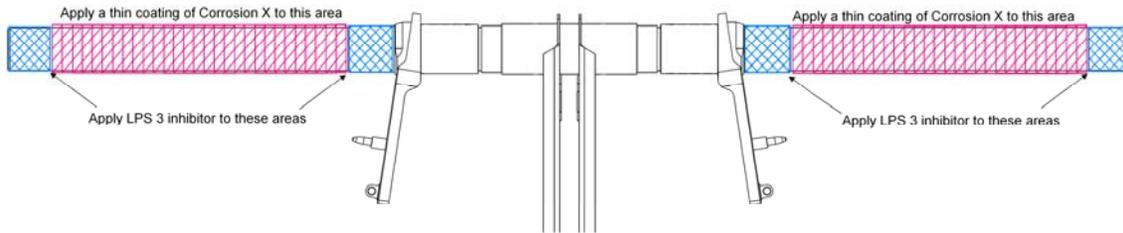

Figure 27-48 Location for the Corrosion Inhibitors
2. Clean any foreign materials from torque tube surfaces. Apply Corrosion X Aviation (or corrosion inhibitor conforming to MIL-C-81309E, Type II) to the areas as shown in Figure 27-48. Apply LPS 3 inhibitor (or corrosion preventive compound conforming to MIL-PRF-16173E Grade 2) to bearing surfaces.